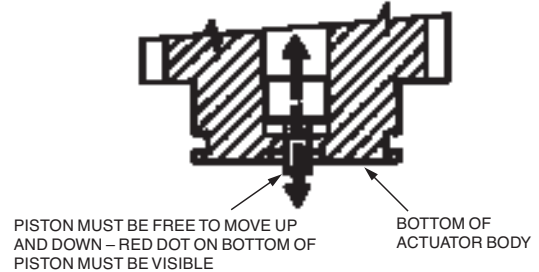

FIGURE 11
12. Make certain piston on bottom of actuator is free to move up and down. Red dot on bottom of piston stem must be visible. See Figure 11. **NOTE:** If pin is not visible in bottom hole of actuator, the piston has been re-installed incorrectly. Disassemble and correct.
Before installing electric actuator to top of a CV-98 valve or an electric selector valve, make certain piston in bottom of actuator is free to move up and down. Refer to Figure 11.